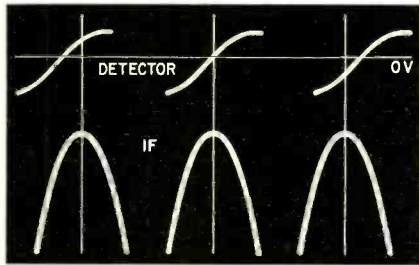

Fig. 1—Detector is properly tuned when center of detector response coincides with peak of if response curve.
▶ A ratio detector provides maximum noise suppression when the input signal is in the center of the detector band-pass. Therefore, when the center of the detector response coincides with the peak of the if response curve, you get maximum noise suppression (Fig. 1). If